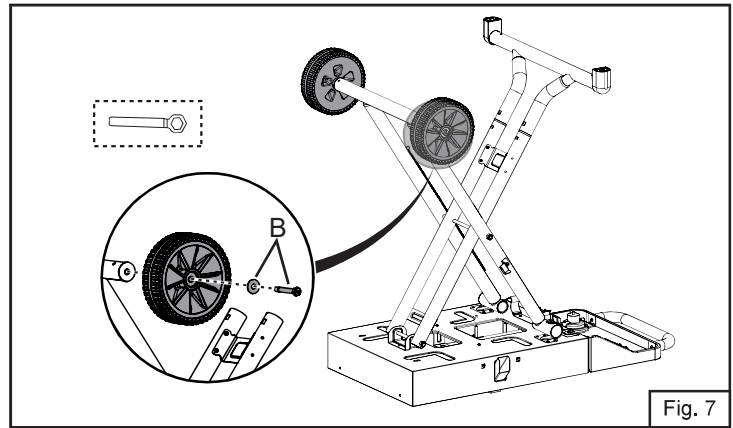

Fig. 7
7. Use the wrench to attach each wheel to axle using one bolt and one washer (Fig. 7).